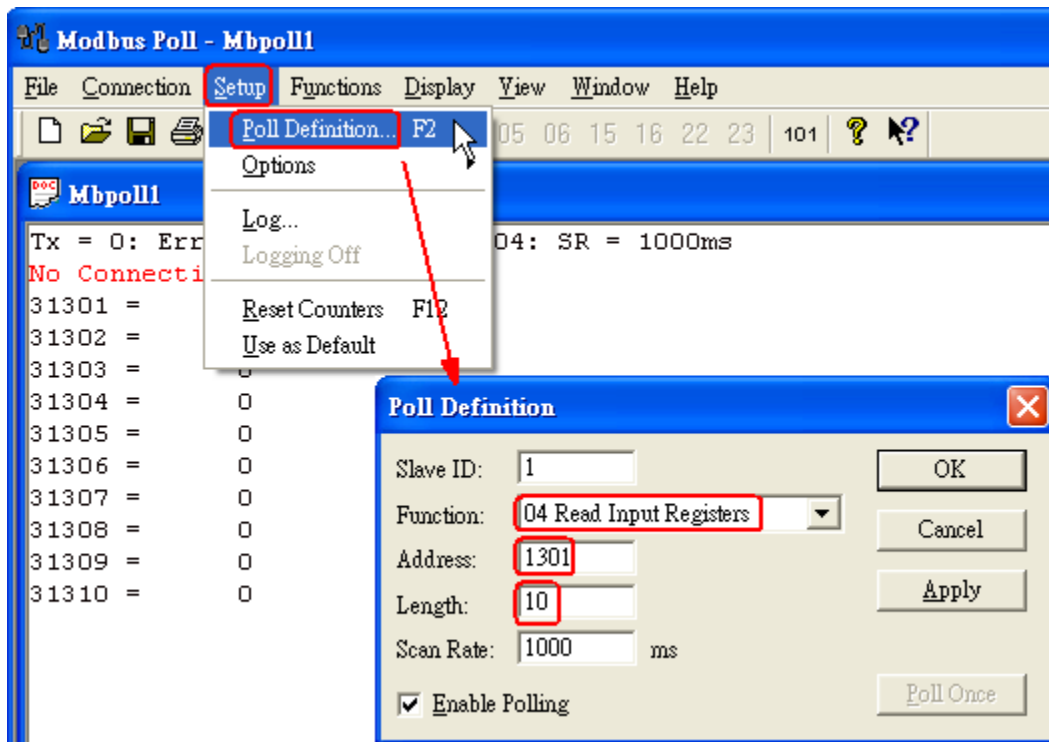

Figure 3-5 Modbus Parameters of “Modbus Poll” tool
- [1] In firmware v1.5 or newer, HRT-710 provides the MB Address **1300 ~ 1459 (Default CMD(3)(S) Data for Module 0 ~ 15 in HRT-710 =>** The detailed information refers to the sector 4.3 of users' manual) and users can map the CMD(3) data of HART device to SCADA directly with these Modbus address 1300 ~ 1459.
- [2] For the “**Default CMD(3)(S) data of Module 0**” in HRT-710, the mapped MB address is **1300 ~ 1309**. The below MB/RTU client will use the “**Modbus Poll**” tool to show the CMD(3) data of HART device by polling Modbus address 1300 ~ 1309.
- <2> Set the “**Modbus**” parameters like Figure 3-5.